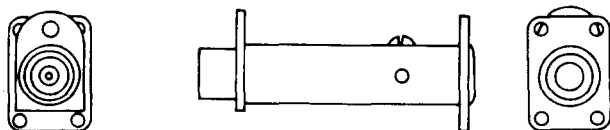

Fig. 4—579A Jack
2.04 579A: This coaxial-type jack (Fig. 4) is arranged to mate with the 440A and similar-type plugs. The center conductor is arranged for solder wire connections. The outer conductor is electrically common with the mounting plates and is tested at 1500 volts ac. This jack is used in the 63-Type Pad.